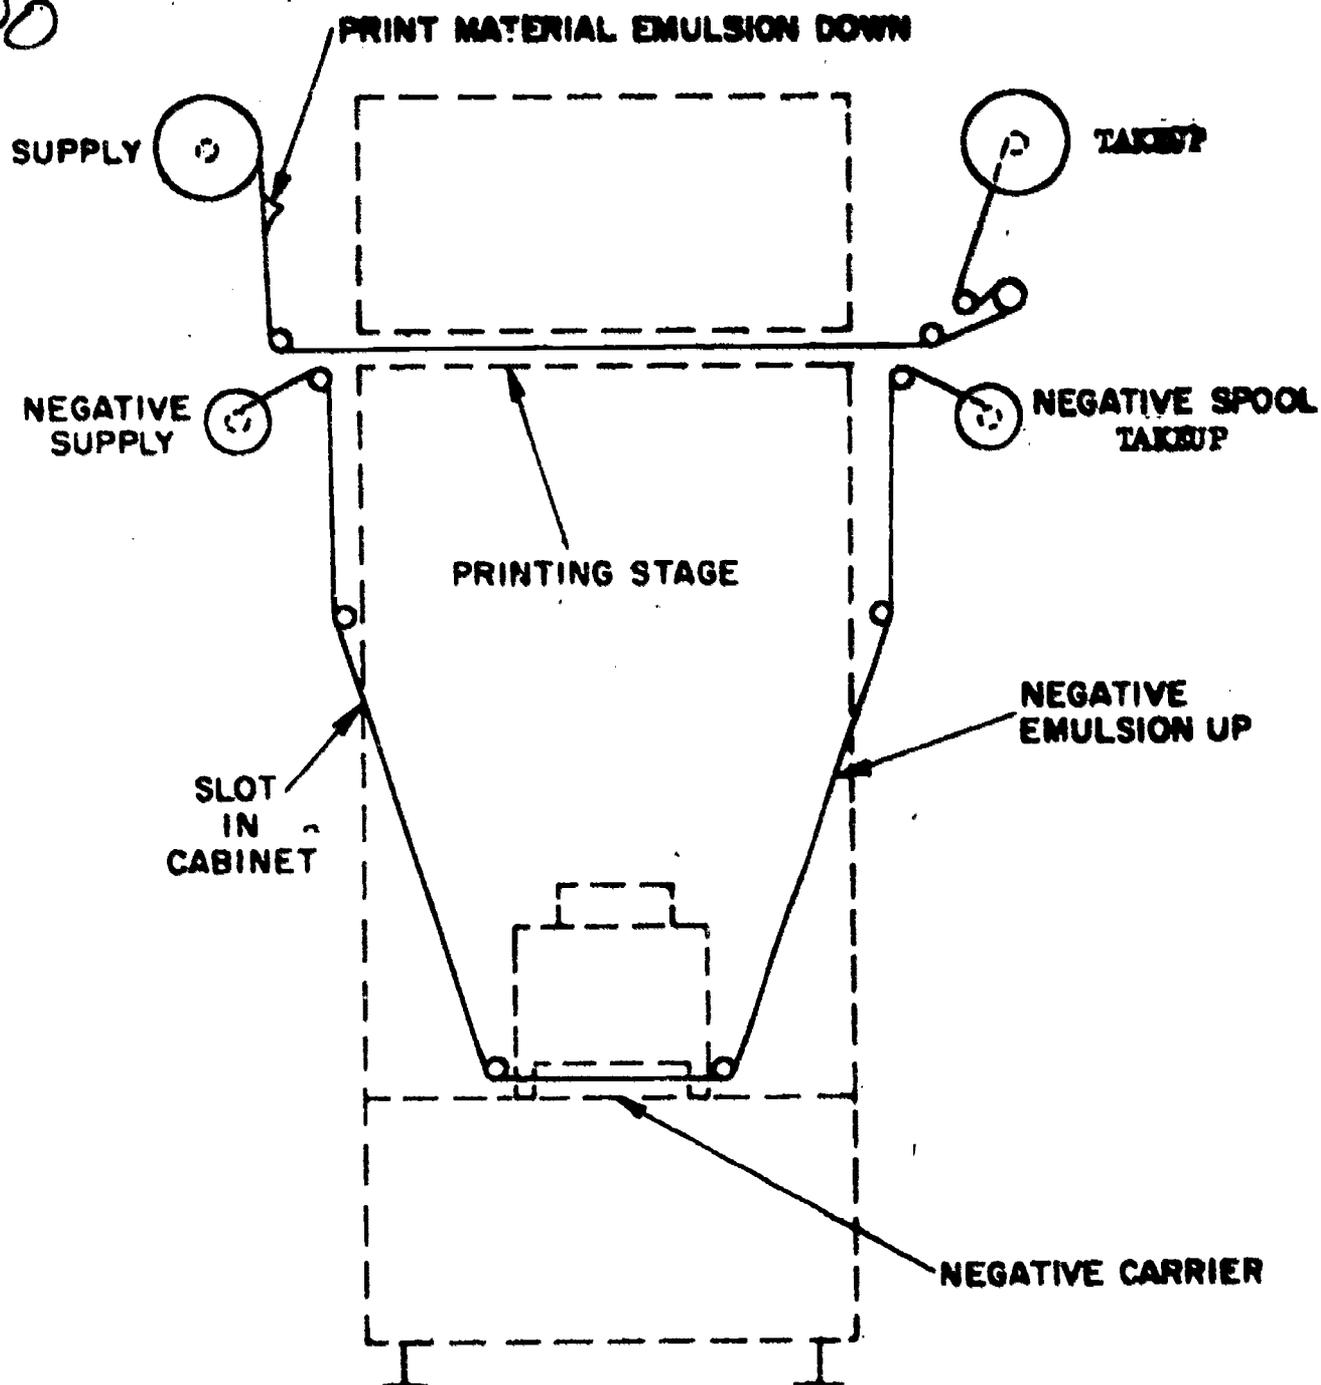

Figure 4-7. Projection Mode Threading Diagram
- b. If the negative is in strip or roll form, thread it as shown in Figure 4-7. Feed the negative (emulsion up) over the stainless steel roller to the upper right of the supply spool, down the left side of the cabinet under the black aluminum roller. Pass the negative through the slot, under the left aluminum roller, over the lower negative carrier and under the right black aluminum roller. Bring the negative up the right side through the slot, over the stainless steel roller and into the takeup negative holder. Turn the takeup spool until the roll of negative is firmly engaged. Close the lens box.
9. Set the MODE switch to AUTO and place rawstock (emulsion down) over the mask cutout on the printing stage. If the rawstock is in roll form, thread it according to Figure 4-7.